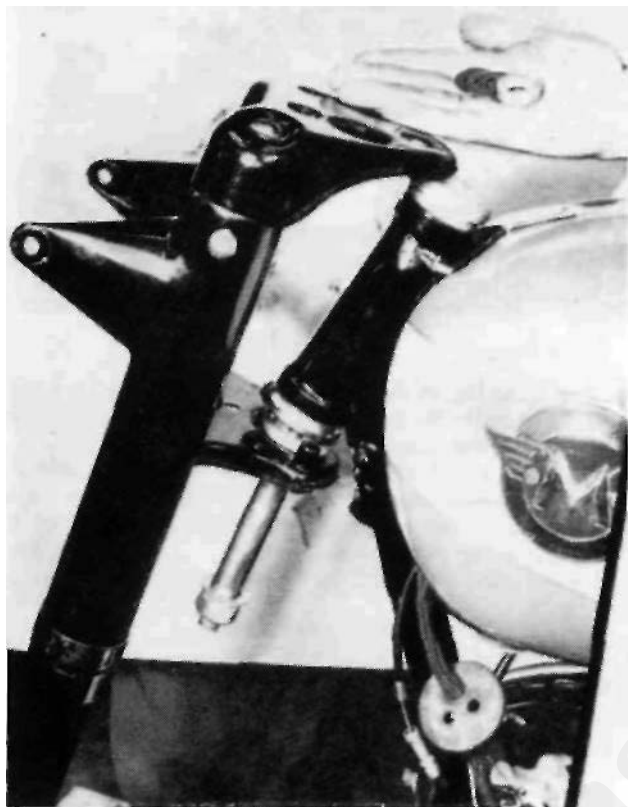
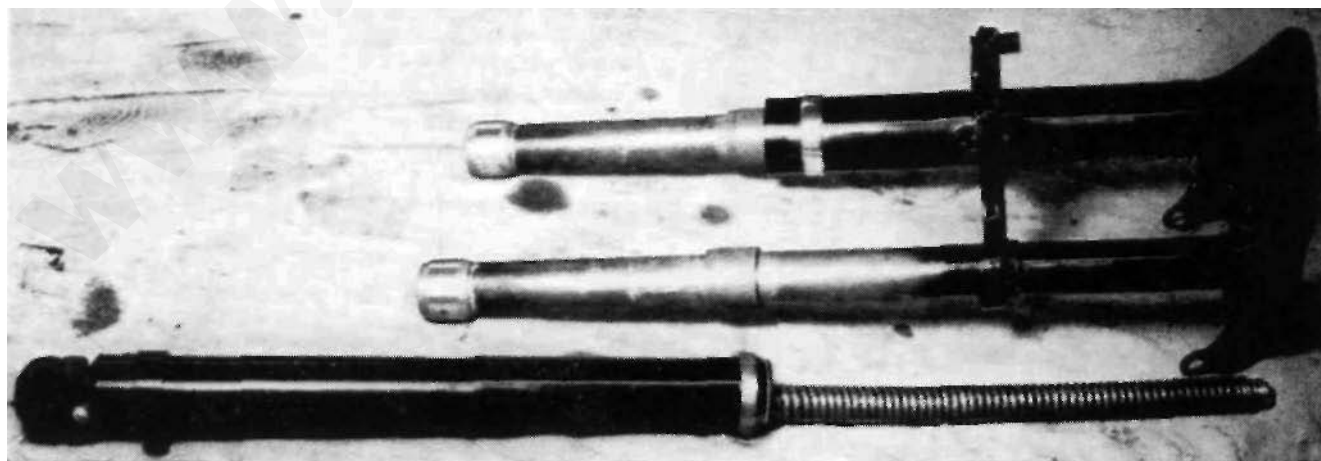

FIG. 64
FIG. 63
Detach steering head stem and support the forks (see Fig. 64). Watch for head bearings (29), set of 39 and take away forks. Support the forks in a vice (Fig. 63), take out screw (2), and pull off the bottom slider extension (13) with fork spring attached.